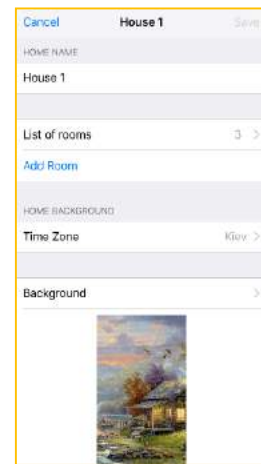

Figure 33
10.8.3. Edit appropriate data (Fig. 33):